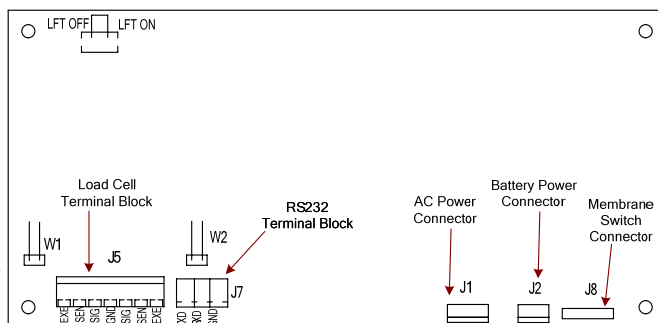

Figure 3-11. Main PCB.
3. With the Simulator set to zero, attach it to the PCB. (See Figure 3-11.)
(See Figures 3-11, 3-2 and 3-3.)